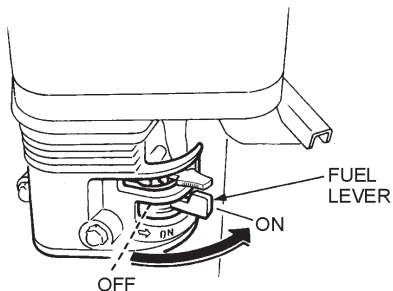

Figure 21. Engine Fuel Lever (ON Position)
1. Place the engine fuel lever to the **ON** position (Figure 21).
4. Place the fuel valve lever (Figure 21) in the **OFF** position.